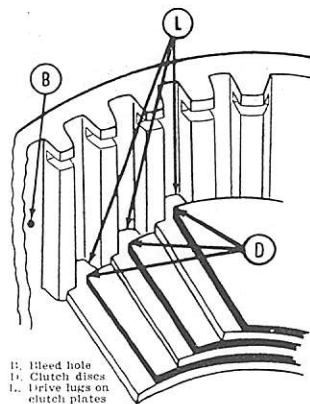

Fig. 229—Cross sectional view of "Multipower" clutch showing recommended method of assembly. Refer to text.
When assembling the clutch plates, note that clutch drum (9) contains six bleed holes which are evenly spaced around edge of drum, and that driving plates (5) have six external driving lugs. With piston installed, refer to Fig. 229 and install the first drive plate on top of piston with lugs (L) one spline clockwise from bleed holes (B) as shown. Install an internally splined clutch disc (D), then the second plate with drive lug (L) one spline clockwise from lug of first plate as shown. Install a second clutch disc; then the third plate with driving lugs one spline clockwise from lugs of second plate. Install last plate, then place the piston return springs (3—Fig. 228) on the driving lugs of the first plate installed. Install retainer plate (2) and snap ring (1).